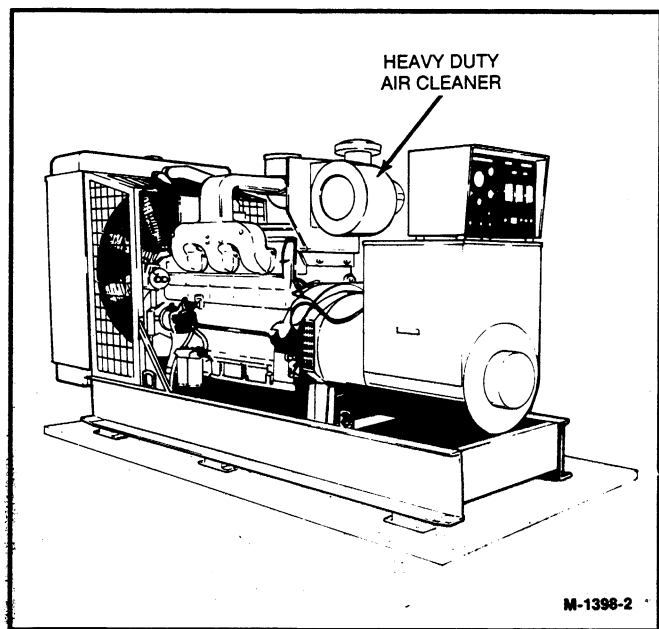

FIGURE 4-18. HEAVY DUTY AIR CLEANER (OPTIONAL)
**To Service the Optional Heavy Duty Air Cleaner:** See Figure 4-18